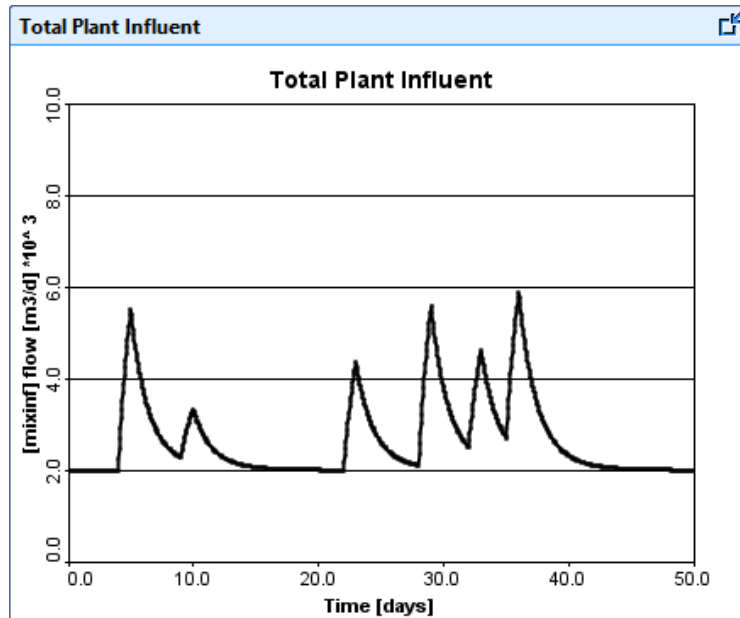

Figure 15-4 - Output Graph of the Random Rain Event
10. **Run the Script.** Press the Run button in the **Python Script Manager**. A sample output graph can be seen in **Figure 15-4**. Note: Your graph will appear different than what is seen here due to the randomness introduced by the Python script.